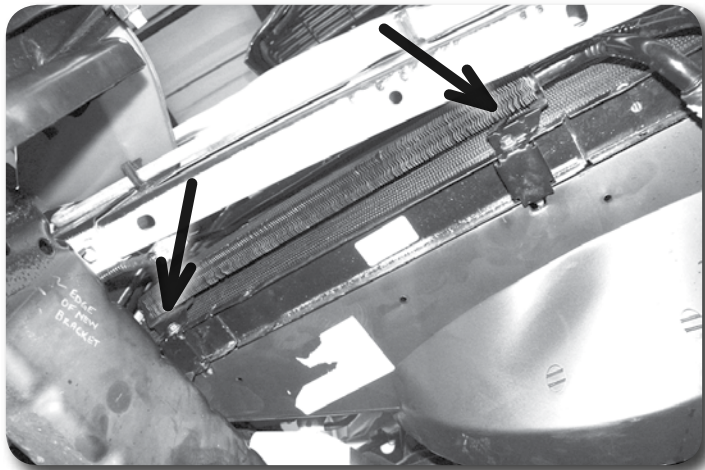

Figure 3
11. If equipped, disconnect the two bolts mounting the power steering cooler to the bottom of the radiator **Figure 3**. Allow the cooler to hang down below the vehicle.